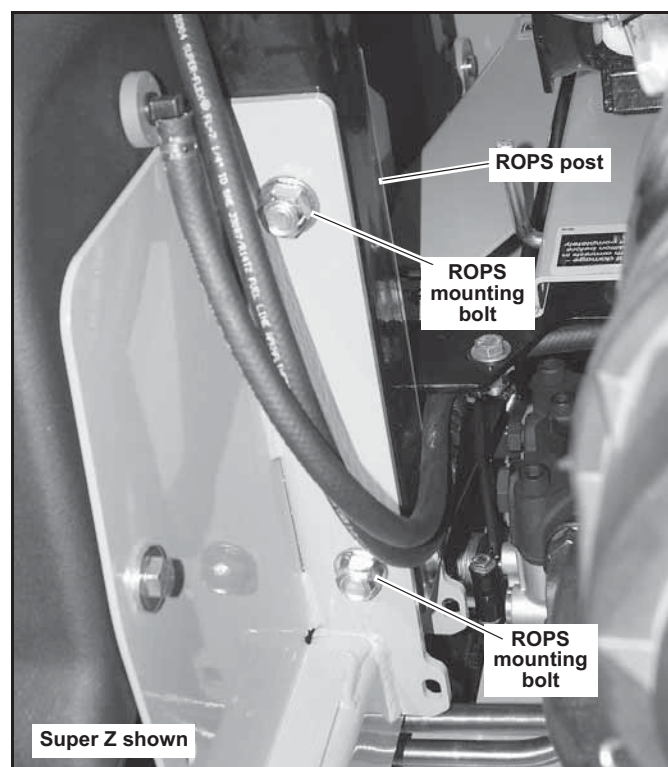

Figure 3-9
1. Check the torque of the ROPS mounting bolts. Tighten the bolts to the correct torques as shown below if necessary. Figure 3-9